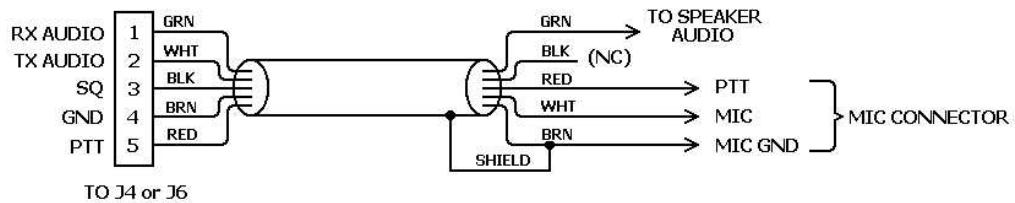

Figure 3-6 Radio-to-PK-232 Connections
3. Verify that your PK-232 and FM radio are connected as shown in Figure 3-6 below.
1. Connect your PK-232 and SSB radio as shown in Figure 3-6.